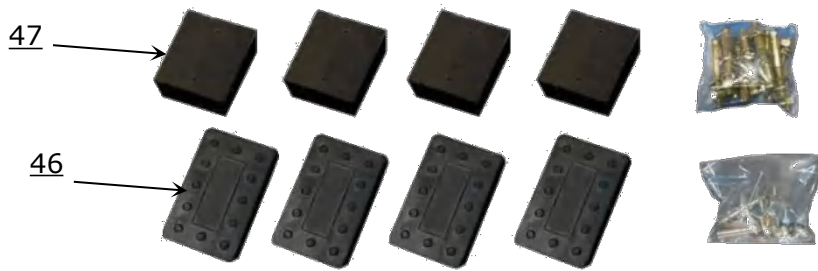

Fig. 7
1.2 Open the part box, check the parts according to the part list (See Fig.7).